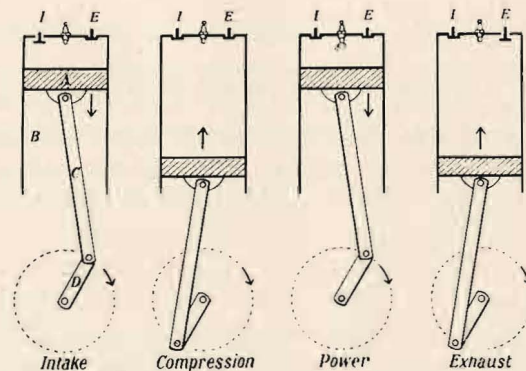

Fig. 1.—The four strokes of the four-stroke cycle.
2. **The four-stroke cycle.** A cycle is a series of events which keep recurring and an examination of Fig. 1